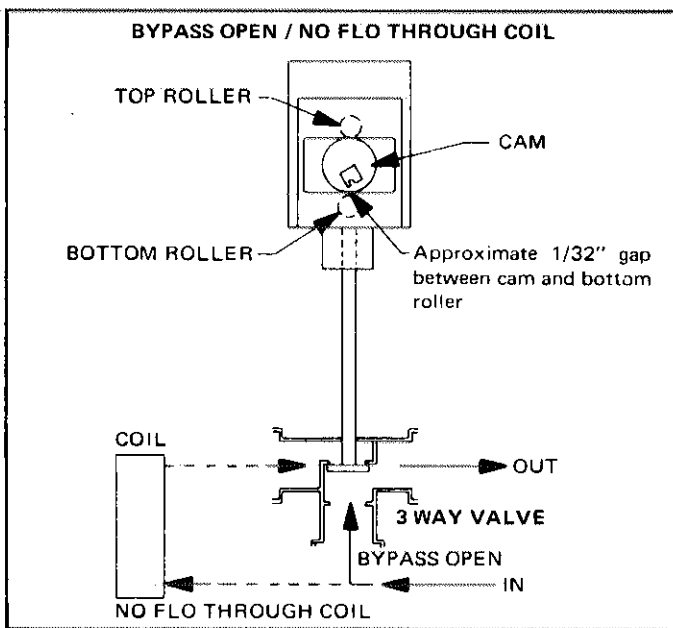

FIGURE 76
- 2 - Remove wire from terminal 2 of chilled water relay (K69). Connect jumper across C and F terminals on motor. Motor should rotate clockwise lifting valve stem. Refer to Figure 76.